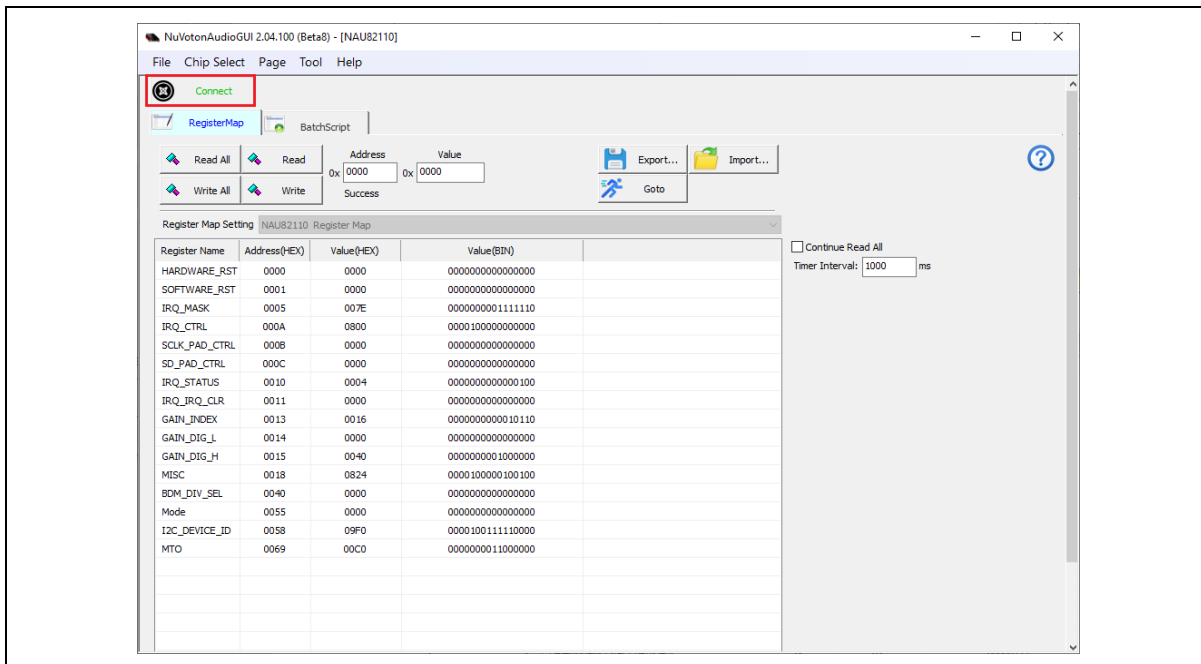

Figure 3-6 NuvotonAudioGUI Operating Step (3)
- NuvotonAudioGUI will automatically read connection status. If the hardware and software are properly configured, a green [Connect] will appear on the upper left corner of the NuvotonAudioGUI window, as shown in Figure 3-6. Then users can issue I2C commands through NuvotonAudioGUI to control NL-NAU82110.